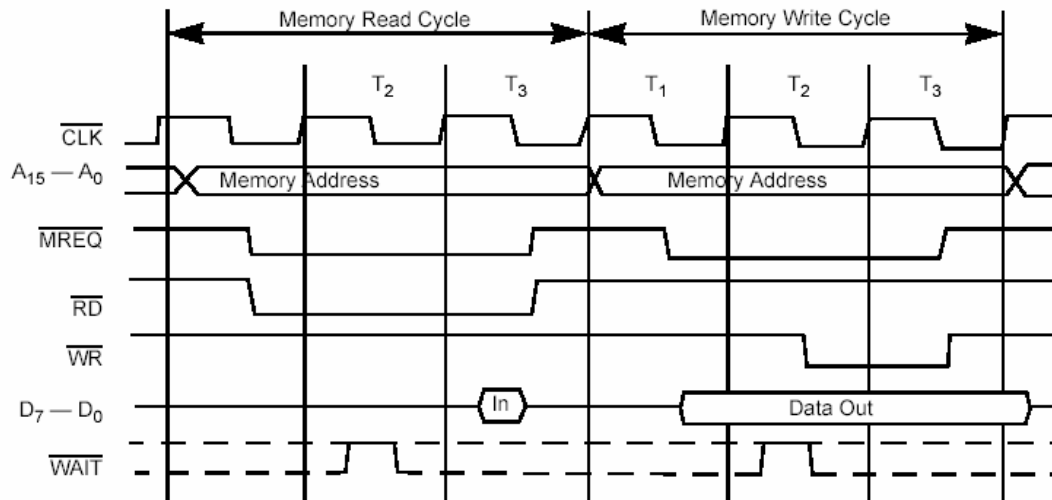

Figure 1.6 Z80 memory access timing.
To do this, the procedure is quite simple: An address must be placed on the address bus (pins A15-A0), the chip enable (CE) must be asserted by pulling it low, and the output enable (OE) must then be pulled low to allow the data to appear on the data bus (I/O7 – I/O0) after a small access time delay. In the case of the BartStation, timing constraints are a non-issue because the memory is much faster than the 8 MHz Z80 whose read timing is shown in figure 1.6. By the time the Z80 samples the bus for data after asserting the address, the data is certain to be available.
The Z80 memory timing is shown in figure 1.6. Reads and writes take 6 clock cycles each and the time between address set-up and data read/write is on the order of at least a cycle or two which is plenty of time for our particular ROM and RAM chips (to verify this, see their respective datasheets.) The MREQ and WAIT signals are unnecessary for our purposes.